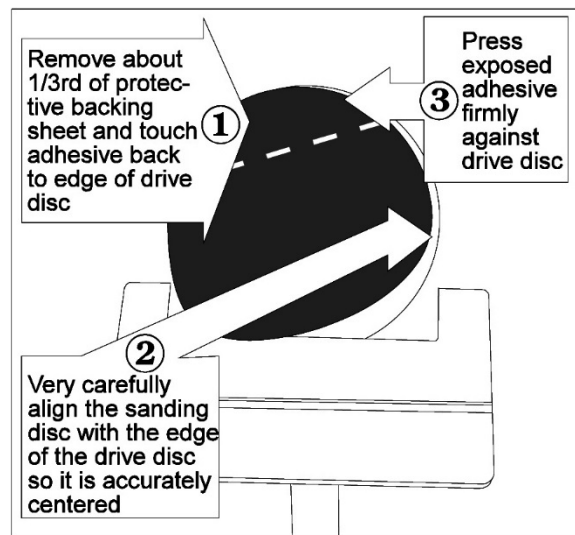

Figure 12: Replacing a grinding disc
7. Remove a small portion of the protective cover from the back side of the new grinding disc you are mounting on the drive disc. A typical amount to remove is about a third of the protective cover. See Figure 12.